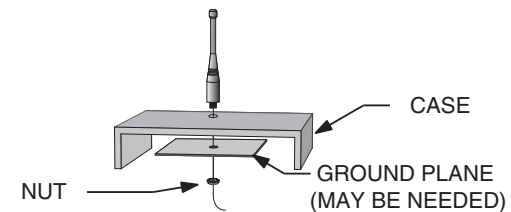

Figure 34: Remote Ground Plane
6. In some applications, it is advantageous to place the module and antenna away from the main equipment (Figure 34). This can avoid interference problems and allows the antenna to be oriented for optimum performance. Always use  $50\Omega$  coax, like RG-174, for the remote feed.